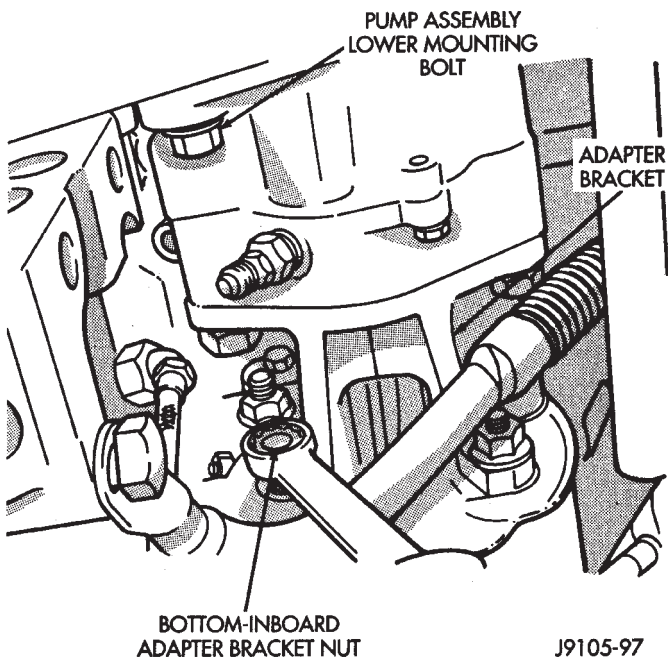

Fig. 108 Vacuum Pump Mounting
(6) Remove lower bolt that attaches pump assembly to engine block (Fig. 108).
(7) Remove bottom, inboard nut that attaches adapter to steering pump. This nut secures a small bracket to engine block. Nut and bracket must be removed before pump assembly can be removed from block.